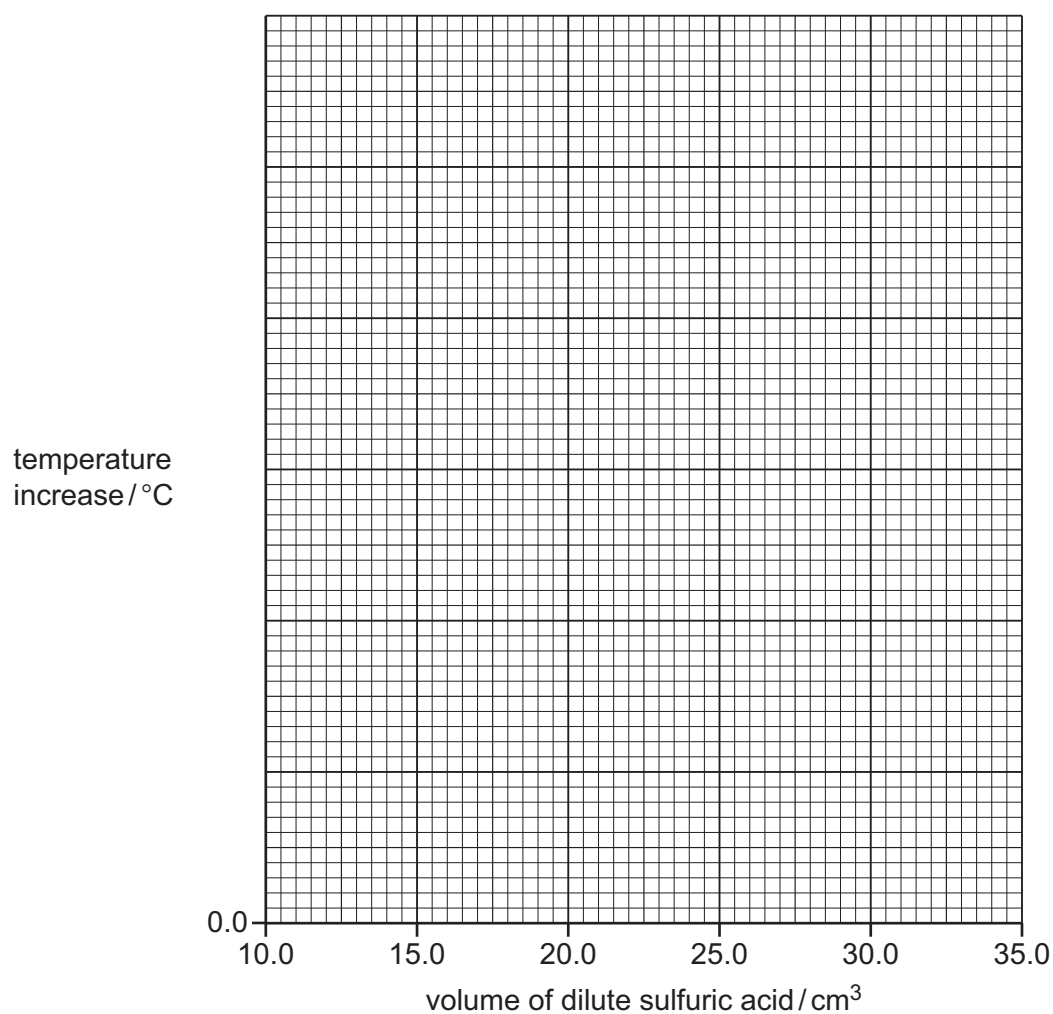

Fig. 1.1
(b) On Fig. 1.1, complete a suitable scale on the y-axis and plot your results from Experiments 1 to 5. Draw a line of best fit.
- (d) Extrapolate the line of best fit on your graph in Fig. 1.1 to deduce the temperature increase if 33.0 cm^3 of dilute sulfuric acid is used.
Show clearly on Fig. 1.1 how you worked out your answer.
On Fig. 1.1, sketch a line to show the results you would expect. Label this line **E**. [1]